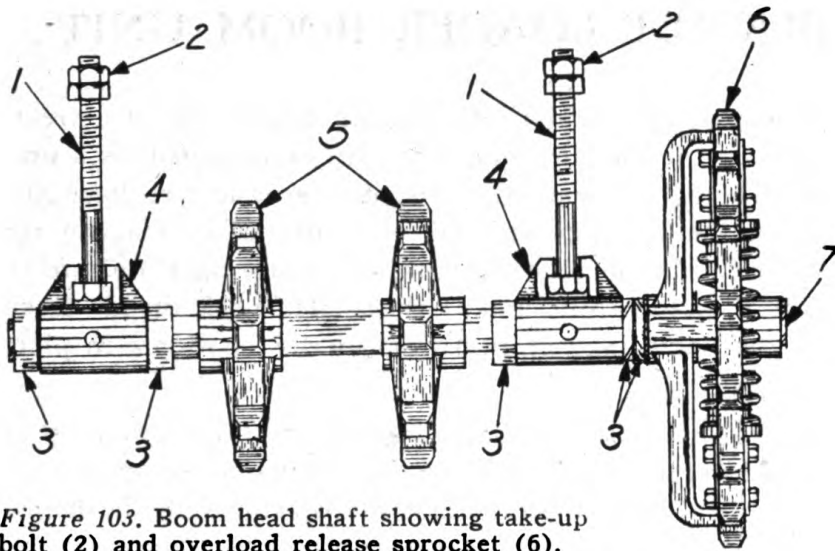

Figure 103. Boom head shaft showing take-up bolt (2) and overload release sprocket (6).
The two bucket chain sprockets (5), Figure 103 are of the split type, keyed and set screwed to the shaft, and it is not necessary to remove the shaft to replace these sprockets. Center to center distance of sprockets is 10". To remove sprockets it is necessary to have the boom in its horizontal position, with the dust housing over the buckets removed at the head end, and the bucket line uncoupled.
To remove the headshaft it is necessary to uncouple the bucket drive chain, remove head end dust housing, remove the Spring Release Sprocket (6), Figure 103 (see instructions below) and the two split bucket line sprockets (5), keys, and loosen set collars (3). The shaft will now slide out.